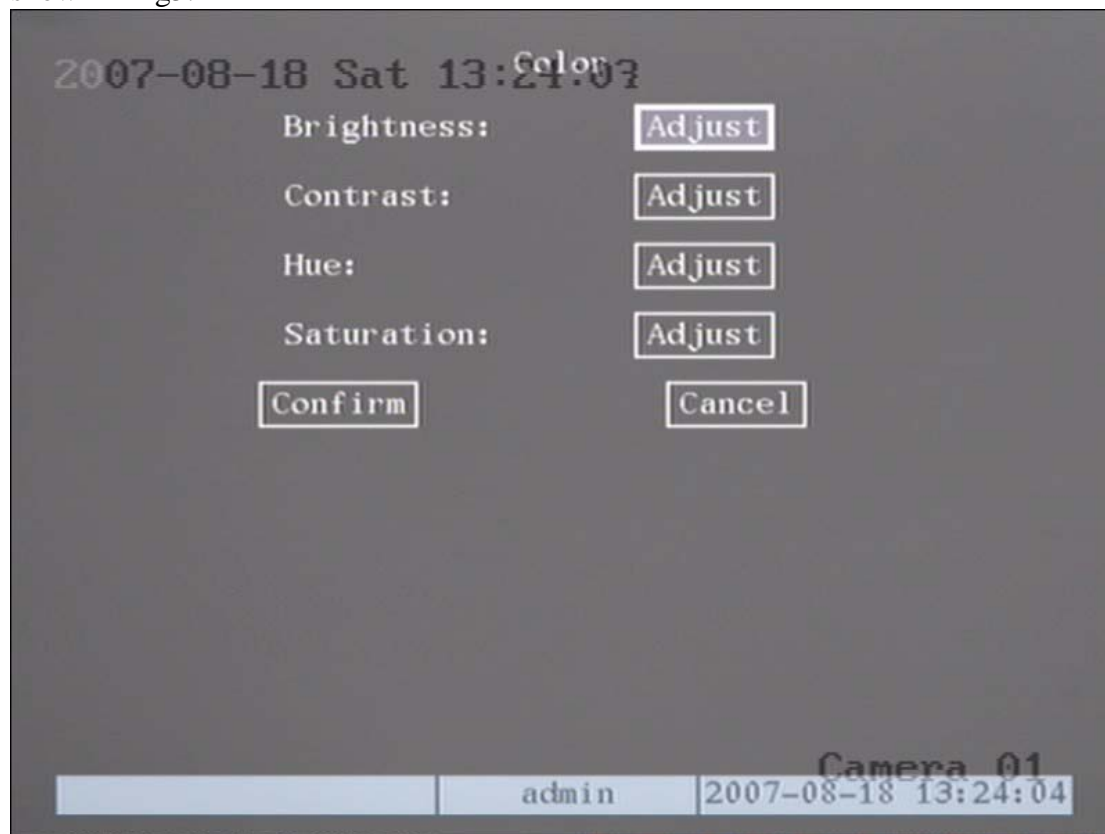

Fig 5.12 Color setup
Step 1: Enter into “Camera”, select a camera then enter “Color setup” menu as shown in fig5.12